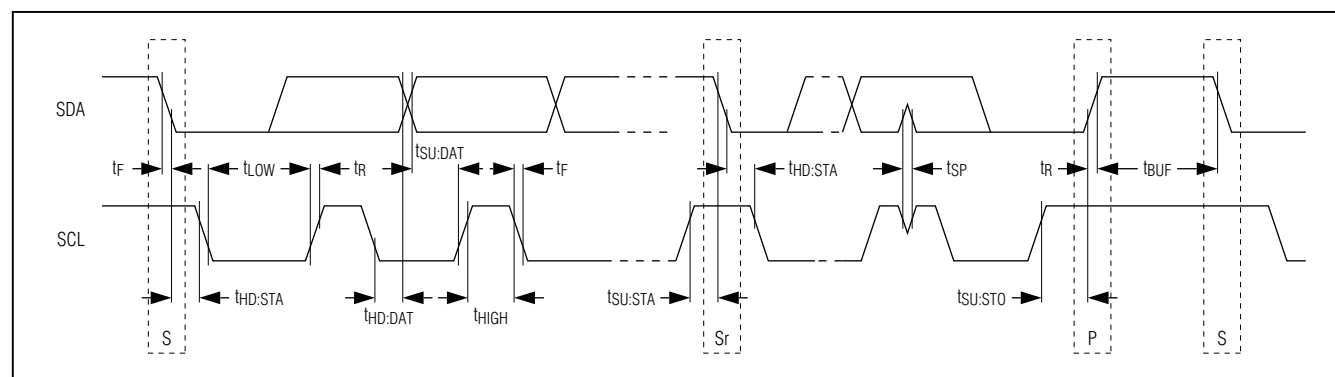

Figure 1. I2C Timing Diagram
The device features an I2C-compatible, 2-wire interface consisting of a serial-data line (SDA) and a serial-clock line (SCL). The SDA and SCL lines enable read and write communication between the IC and a master device at a rate of up to 400kHz. The IC is a slave device, relying on the master to generate the SCL signal. The master initiates data transfer on the bus and generates SCL to permit the transfer. Figure 1 shows the timing for the bus. The two bus lines (SDA and SCL) must be high when the bus is not in use. When in use, the port bits are toggled to generate the appropriate signals for SDA and SCL. The SDA state is allowed to change only while SCL is low. The state of SDA must remain stable while SCL is high, with the exception of START (S) and STOP (P) conditions. Data is transmitted in 8-bit bytes. Nine clock cycles are required to transfer the data bits to the device, with the 9th clock cycle used for an acknowledge pulse. A separate VDDI power-supply input and internal bidirectional level translators are provided to allow the device to interface to a microcontroller running on a voltage other than VDD. The SDA driver is an open-drain output, requiring a pullup resistor to generate a logic-high voltage.
Both SCL and SDA must be high when the bus is not in use. A bus master signals the beginning of a transmission with a START condition by transitioning SDA from high to low while SCL is high (see Figure 1). When the